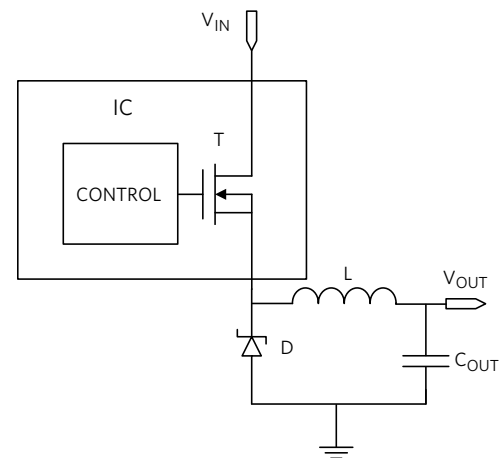

Figure 4. Nonsynchronous Buck Converter
For a 24V input and 5V output, the buck converter works with a duty cycle of about 20%. This means that the internal high-side transistor (T in **Figure 4**) conducts only 20% of the time. The external rectifier diode (D) conducts the remaining 80% of the time, which accounts for most of the power dissipation.